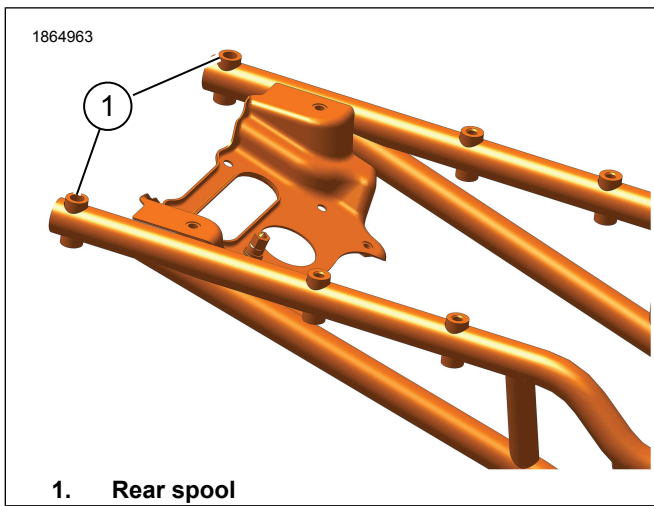

Figure 6. Tail Section
1. See Figure 6. Visually inspect for threads in rear spools of tail section.